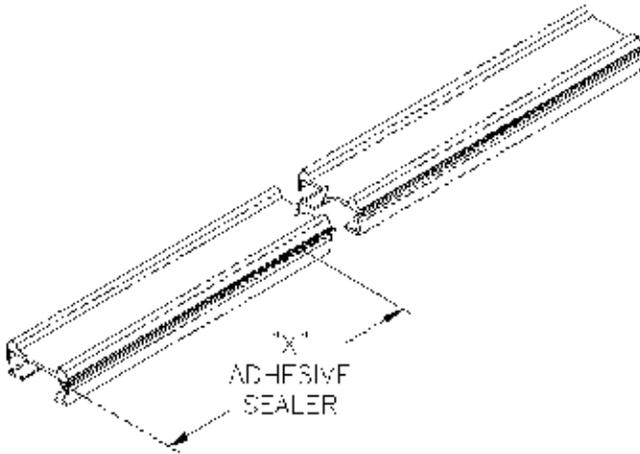
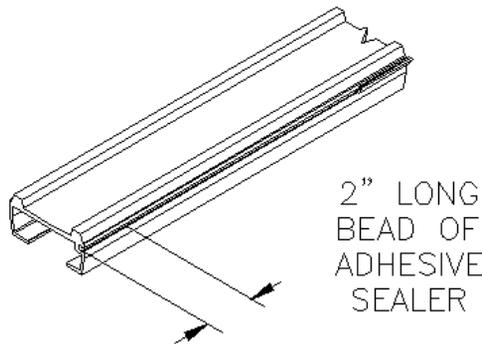
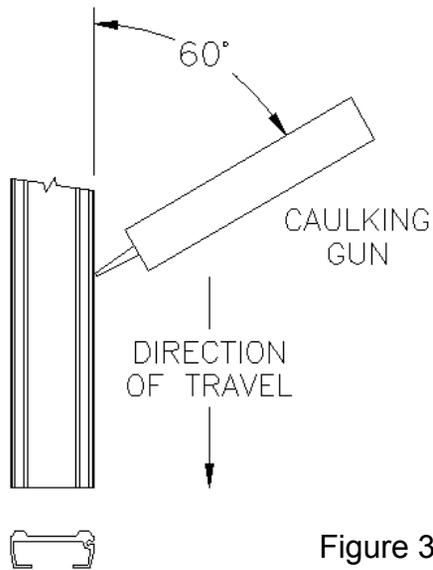

Figure 36
Figure 37
Figure 38
D. Apply a 1/8" diameter bead of SikaFlex 221 adhesive sealer into the exposed seal groove (Figure 36). The bead should be from the end of the seal to the end of the slat. If using the polyethylene seal (blue) the bead should be 2" long (Figure 37). Hold the caulking gun at a 60° angle to the floor slat (Figure 38). Push the bead, do not pull.